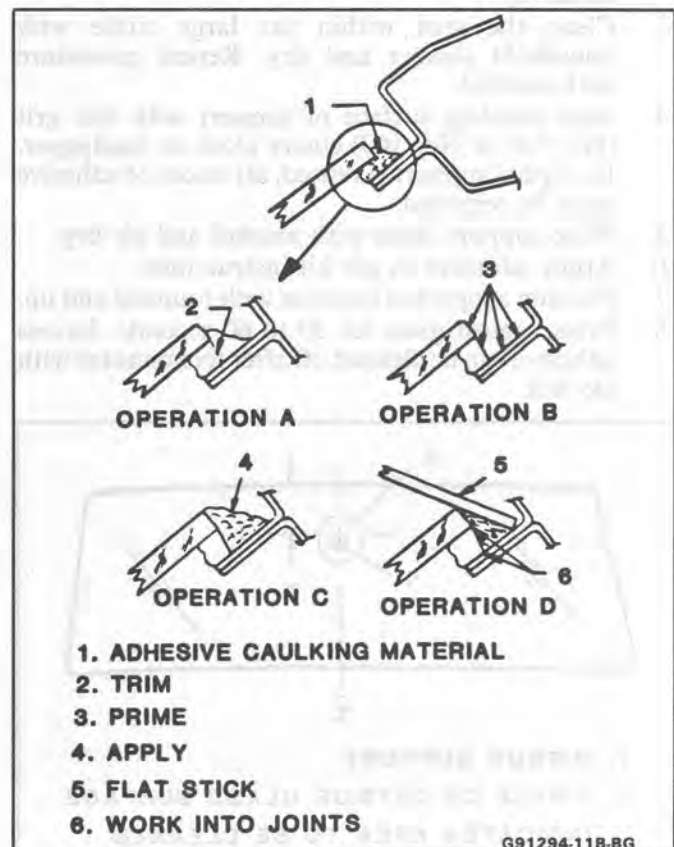

Fig. 8 - Adhesive Glass Waterleak Correction
3. Using a sharp knife, trim off uneven edge of adhesive material (operation A, Fig. 8) at leak
4. Prime affected area, as shown in operation B, Figure 8, with black primer supplied in kit. Agitate primer prior to use. Allow primer to dry five minutes.
5. Apply adhesive material, as shown in operation C, Figure 8, at leak point and 75 mm (3") to 100 mm (4") on both sides of leak point or beyond limits of leak area.
6. Right after performing step 5, use a flat stick or other suitable flat-bladed tool to work adhesive material well into leak point and into joint of original material and body to effect watertight seal along entire length of material application (operation D, Fig. 8).